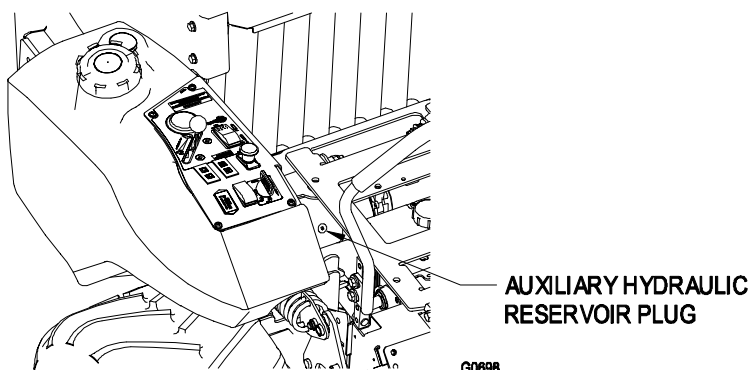

FIGURE 5
- d) Locate the auxiliary hydraulic power unit reservoir. See Figure 5.